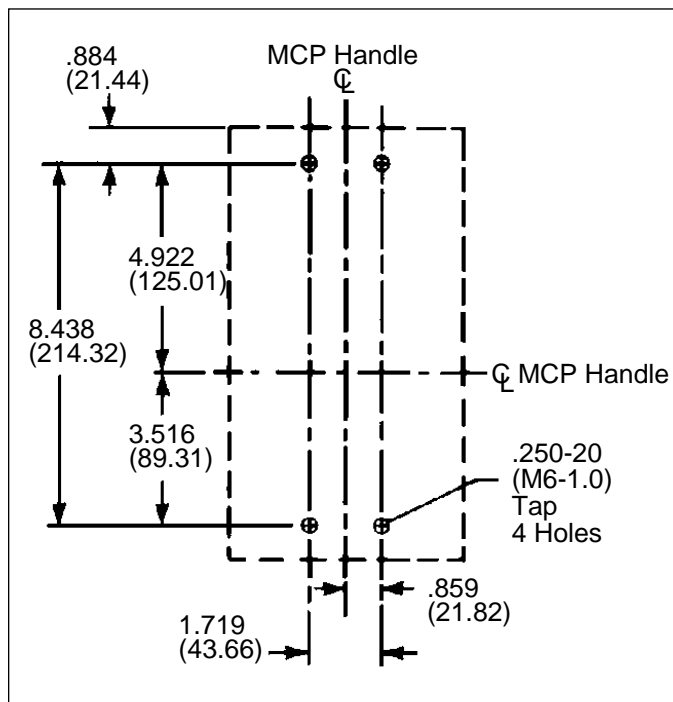
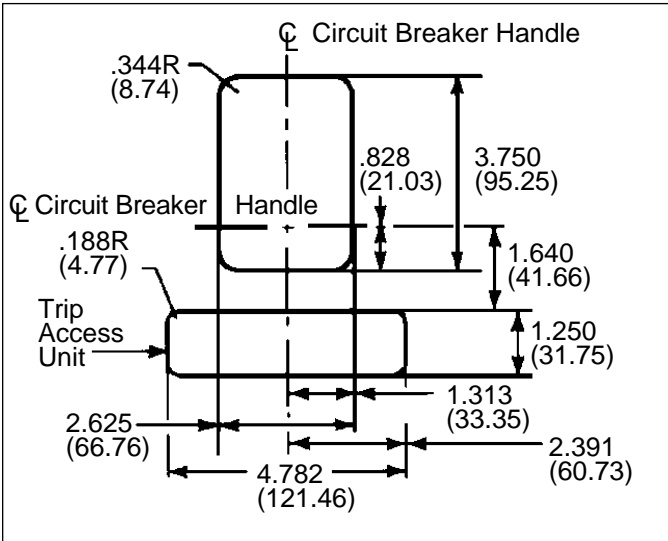

Figure 2-4 MCP Mounting Bolt Drilling Plans
Figure 2-5 MCP Escutcheon Dimensions
a. For individual surface mounting, drill mounting panel using the drilling plan shown in Fig. 2-4. For deadfront cover applications, cut out cover to correct escutcheon dimensions. (See Fig. 2-5.)